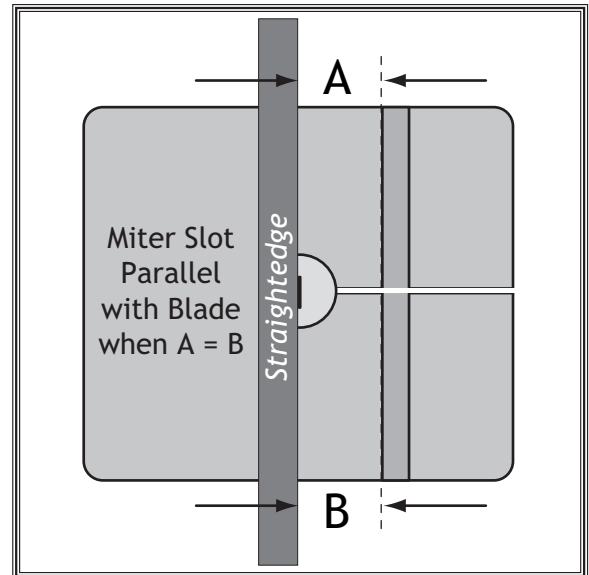

Figure 3. Checking if miter slot is parallel to blade.
5. Use a fine ruler to gauge the distance between the straightedge and the miter slot. The distance you measure should be the same at both the front and back ends of the miter slot, as indicated by positions "A" and "B" in **Figure 3**.